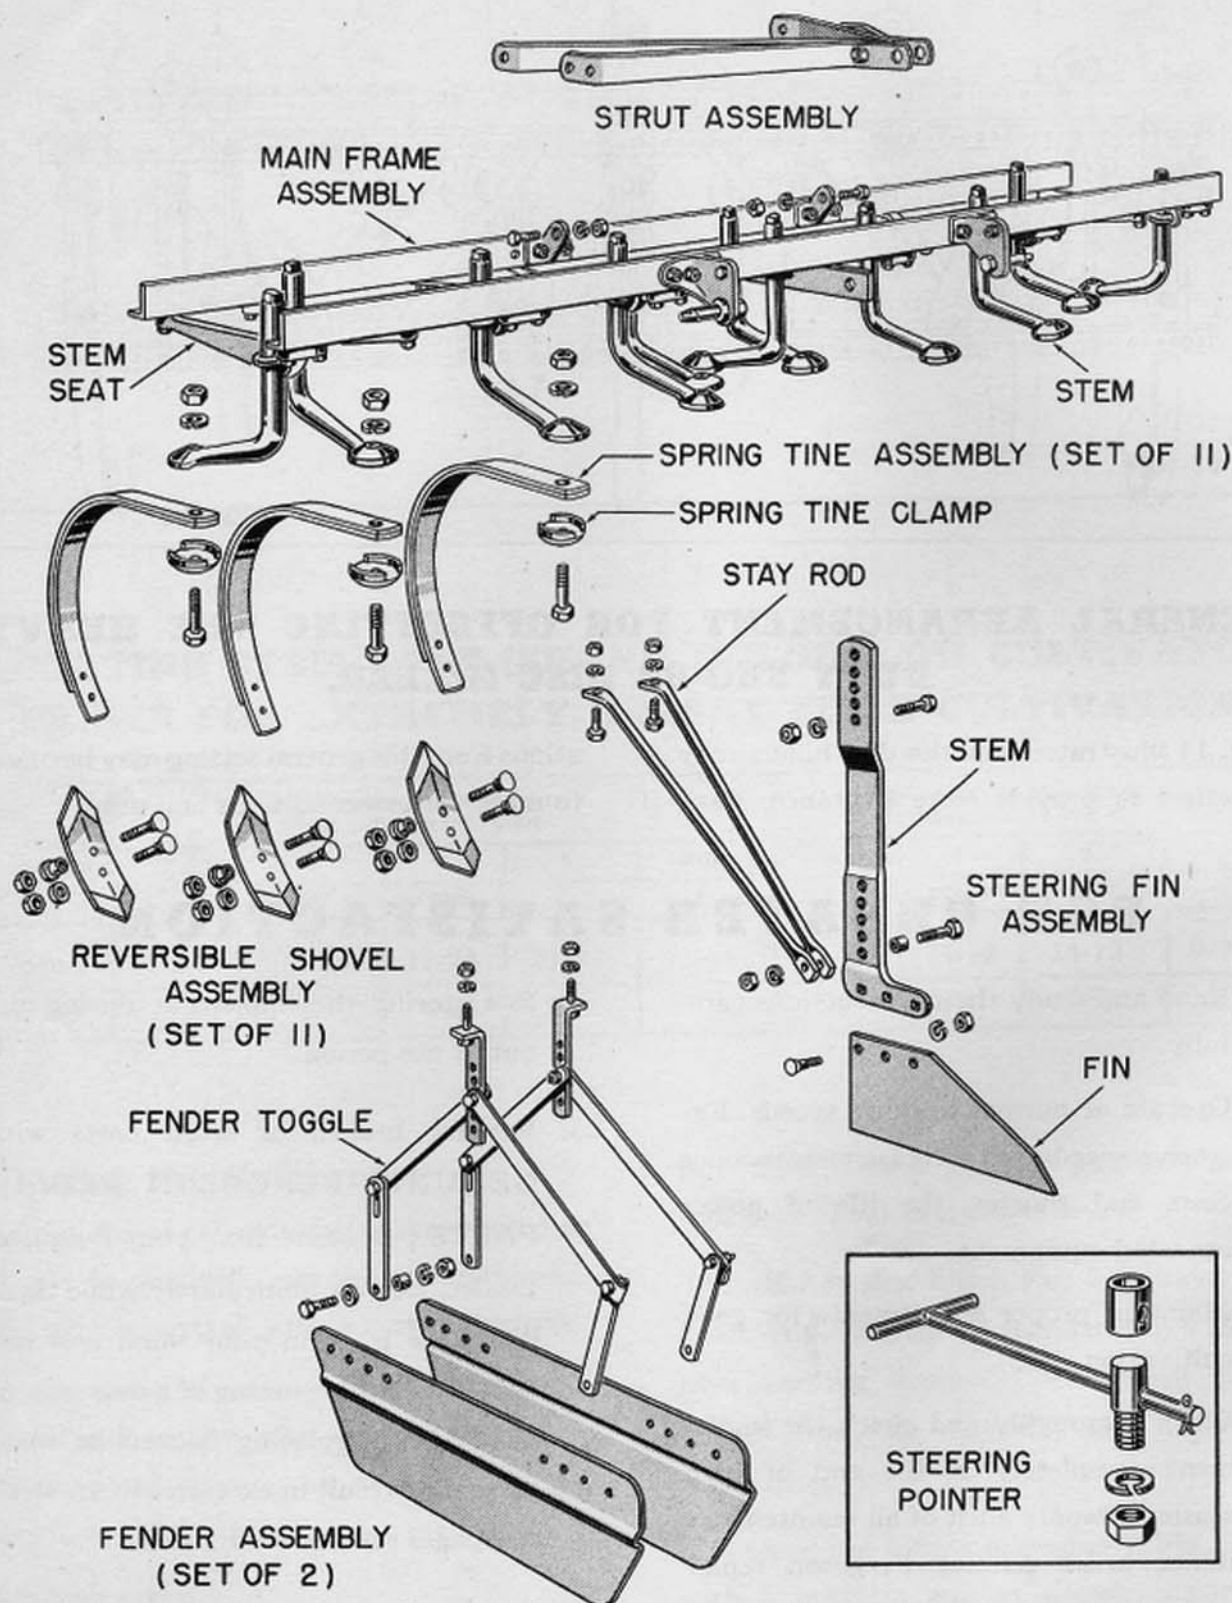

FIG. 15
Check each item with Fig. 15 and the packing slip to make certain the shipment is complete. Eleven (11) spring tines with shovels are furnished as regular equipment.
The steering fin braces (stay rods) are assembled as shown in Fig. 18-B. When bolting the braces at (L) to the fin, make certain the spacer (See Fig. 15) is in place and then bolt securely.